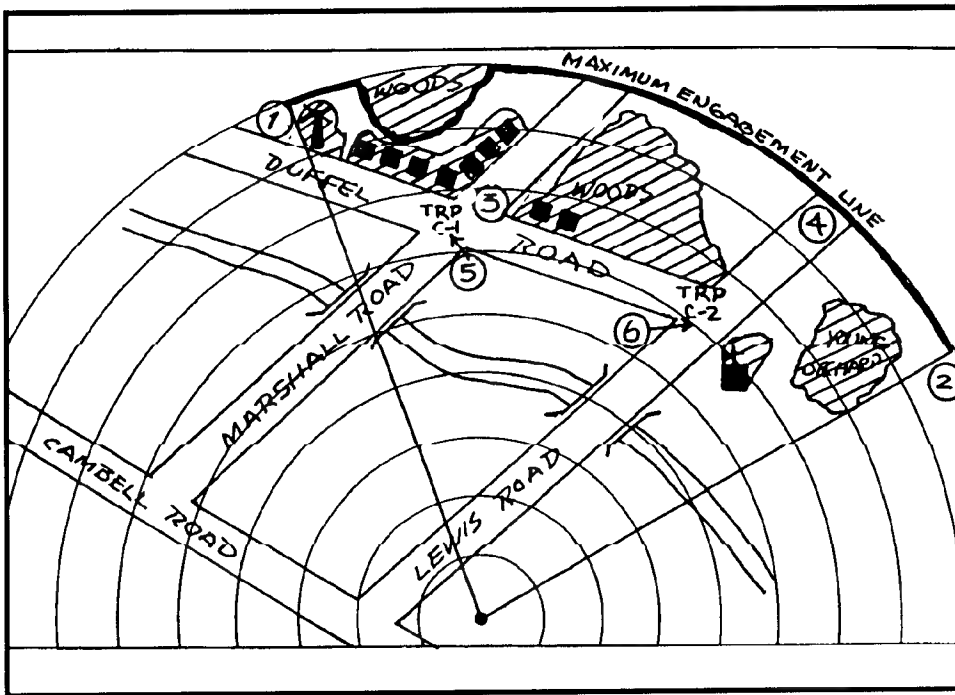

Figure E-7. Dead space indicated
f. Place diagonal lines, or the words “dead space,” where dead space occurs (Figure E-7, page E-7).